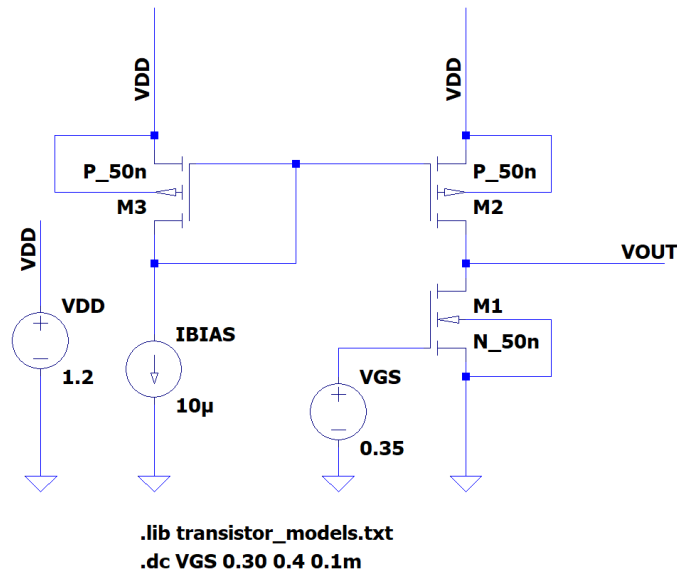

Figure 2.20 CS amplifier with the PMOS current mirror
In this section, we'll combine our biasing circuits to our simple CS amplifier with the current source load in Section B. We won't be focusing on getting exact small-signal parameters unlike before, but rather we'll focus on appreciating what happens to our amplifier. Consider Figure 2.20 which shows a simple CS amplifier with a PMOS current source load and it is biased by a current mirror.
6. Suppose we want to replace the PMOS current source with a PMOS current mirror that is biased by $I_{BIAS} = 10 \text{ }\mu\text{A}$. The case is similar to Figure 2.20.